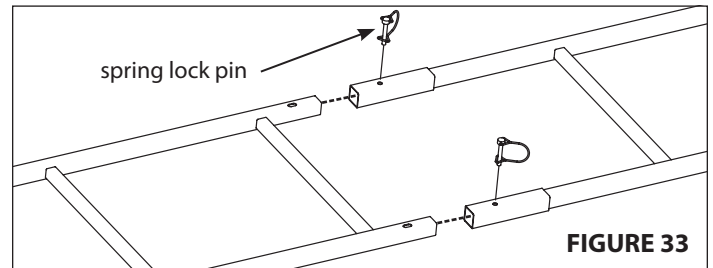
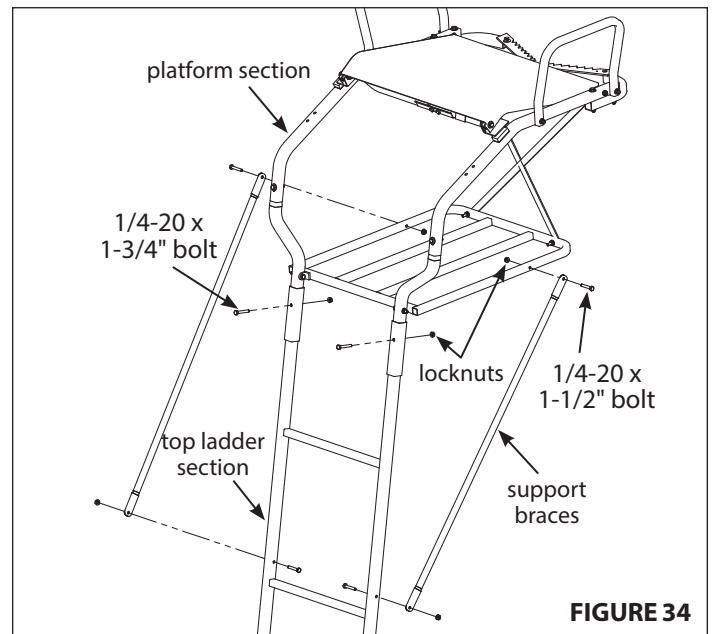
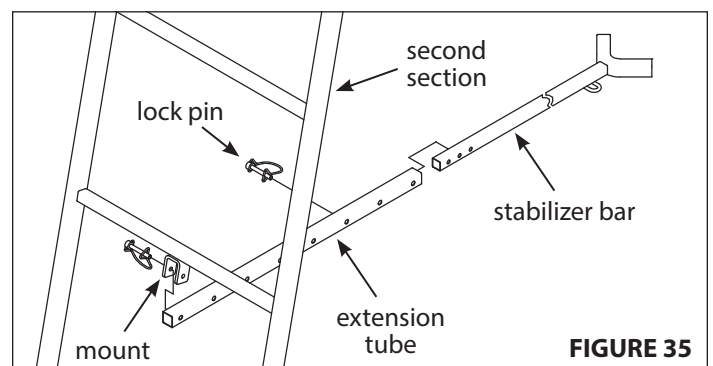

FIGURE 33
FIGURE 34
FIGURE 35
10. With all sections assembled together on ground, secure all ladder sections together using (6) provided spring lock pins. **SEE FIGURE 33.** Secure the top ladder section (15381) to the assembled platform section with (2) provided 1/4-20 x 1-3/4" bolts and locknuts. **SEE FIGURE 34.**
11. Attach support braces (18732) to the platform and top ladder section using (4) provided 1/4-20 x 1-1/2" bolts and locknuts. **SEE FIGURE 34. Tighten securely. Be sure not to overtighten or crush tubing when tightening!**
12. Attach the (2) provided 9" foam pads to the armrests by wrapping around tubing and attaching Velcro together.
- a. Attach the stabilizer bar extension tube (1ML23) to the second ladder section mounting bracket using (1) provided spring lock pin. **SEE FIGURE 35.**
- b. Slide the stabilizer bar (L17) into the extension tube and attach the two pieces together using (1) provided spring lock pin. Spring lock pin must go through both the extension tube and stabilizer bar at appropriate hole to achieve desired distance from tree. Adjustment in length may be needed when ladder is uprighted later in instructions. **SEE FIGURE 35.**